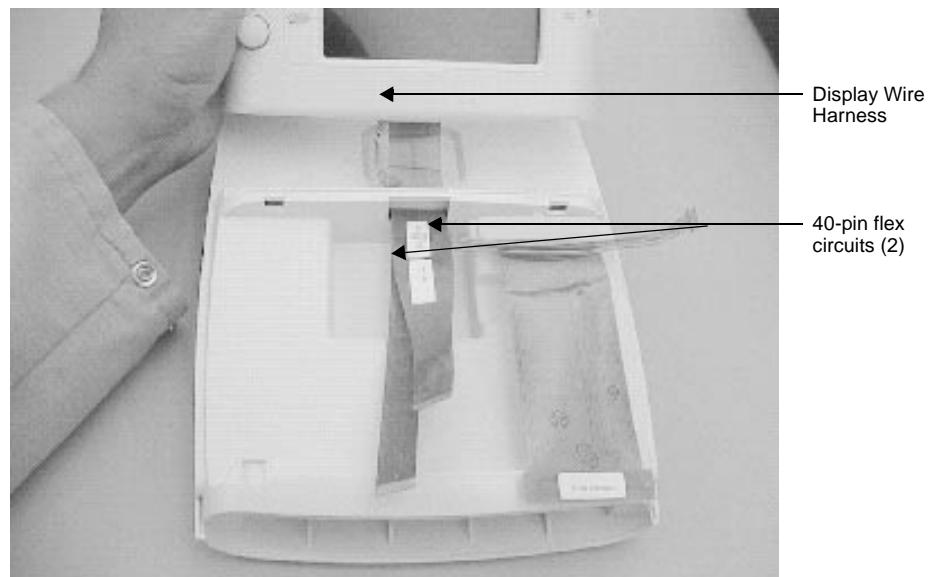

Figure 7.4 Replacing the Top Housing
- 1 Carefully guide the ends of the replacement display wire harness and two 40-pin flex circuits through the slot in the top housing (Figure 7.4).